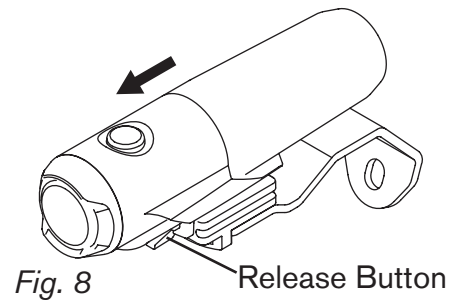

Fig. 8
- To remove the light, pull forward while pressing the release button (fig. 8) upward, towards the body of the light